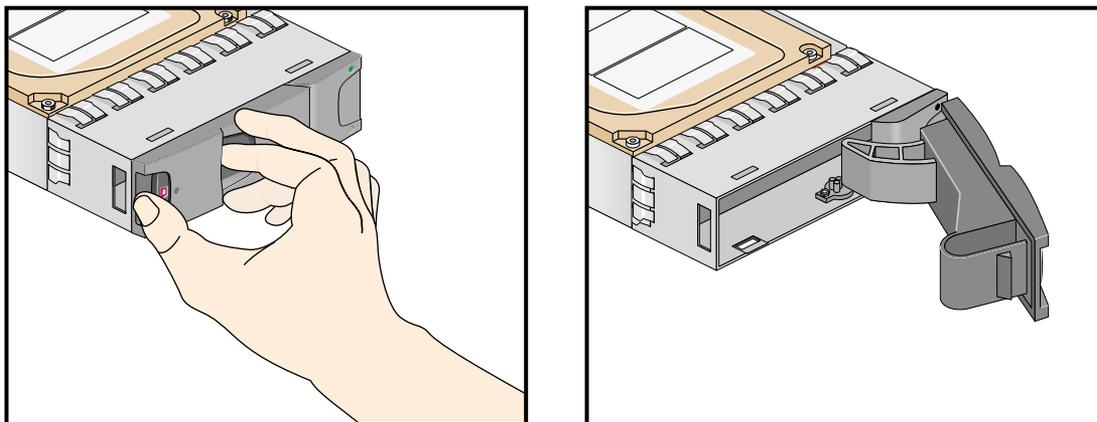

Figure 14-13 Releasing Carrier Handle
5. Release the handle of the replacement carrier by pressing the latch in the handle towards the right, as shown in Figure 14-13. Insert the carrier into the enclosure.